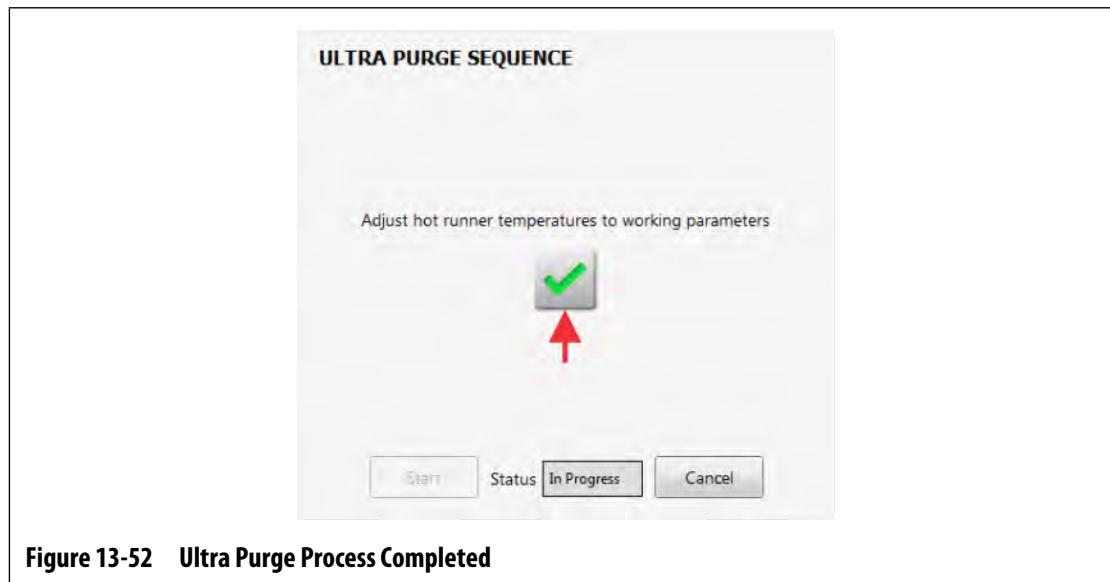

Figure 13-52 Ultra Purge Process Completed
- 22. When the temperatures are at their parameter settings, touch the green check mark button to continue (refer to Figure 13-52).